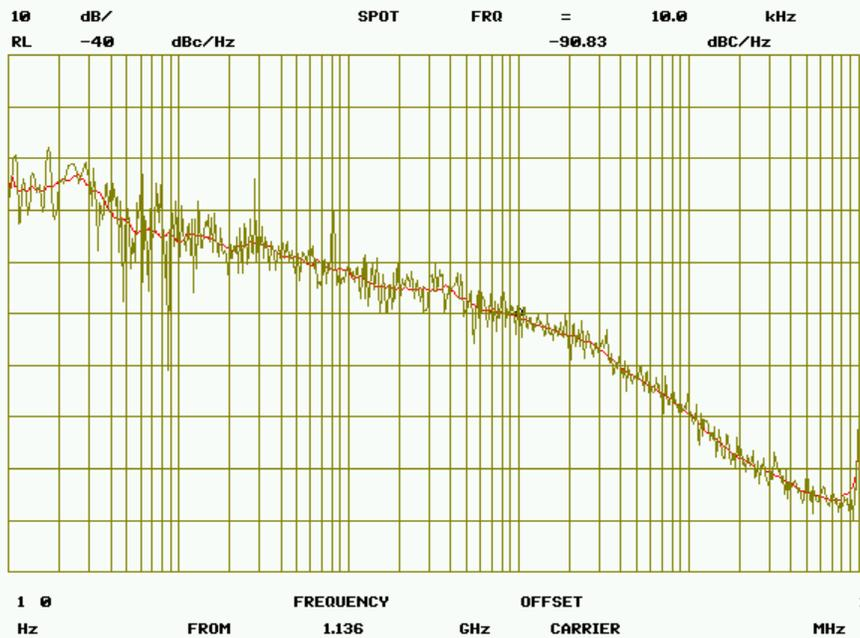

Figure 5, Isotemp OCXO 134, 1136 MHz, 1MHz phase detector update
**Figure 5** shows the same plot, but with an Isotemp OCXO model 134-10 at 10 MHz.